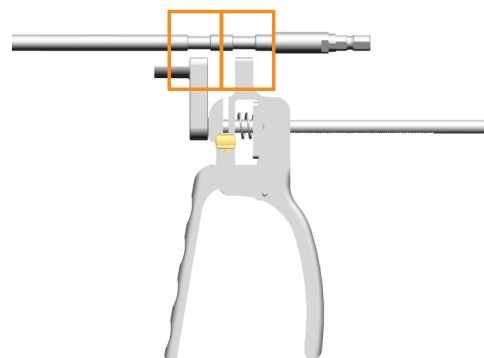

Figure 11a
12. With the Proximal Compression Handle (7117-9218) completely collapsed, align the tabs with the grooves of the Proximal Screw Tap - Compression (Figure 11a).